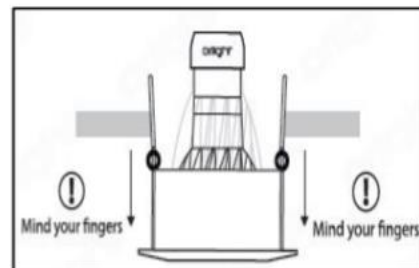

Figure 3.10
- Evenly pull the whole fitting away from the ceiling. (Refer to figure 3.10) This may require some force to bend the springs back fully. Be careful to avoid the spring folding back and pinching your fingers.